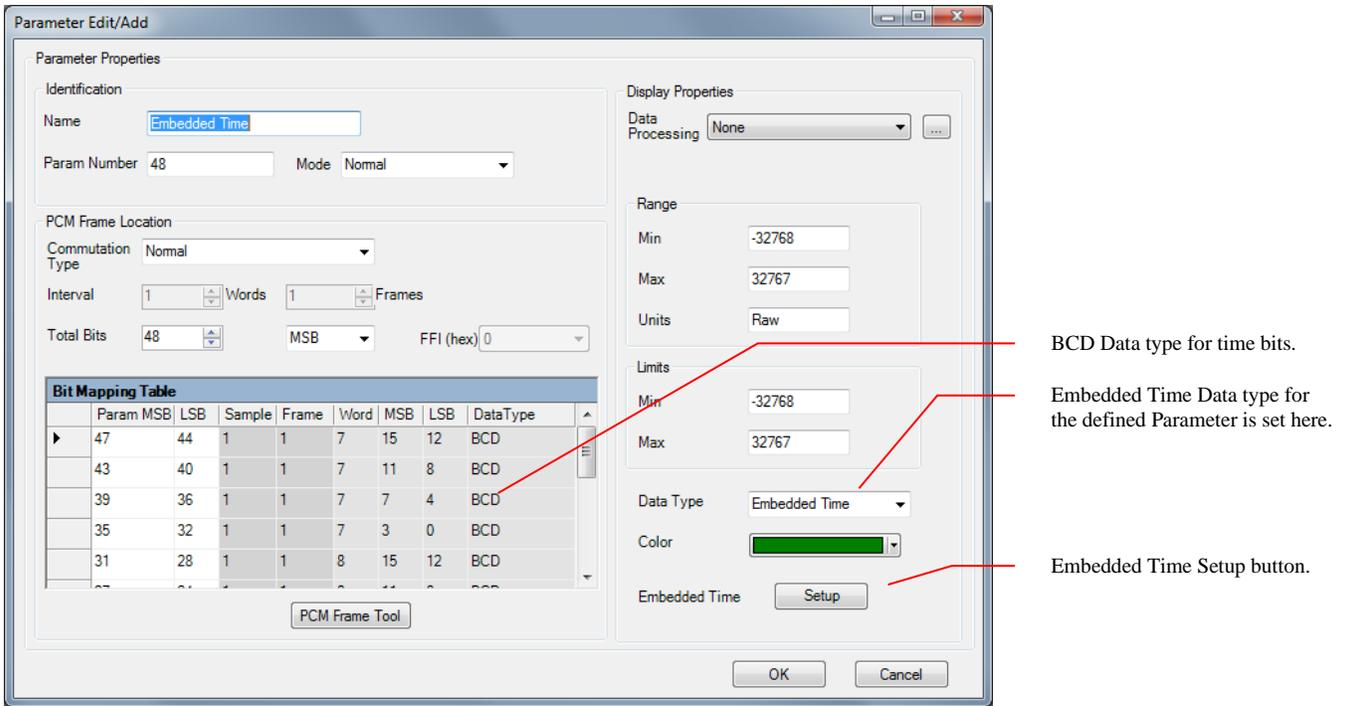

Figure 132 – Embedded Time Parameter
3. Set the Data Type Field to **Embedded Time**. The Embedded Time Setup button will appear as shown below. (See Figure 132 – Embedded Time Parameter below.)